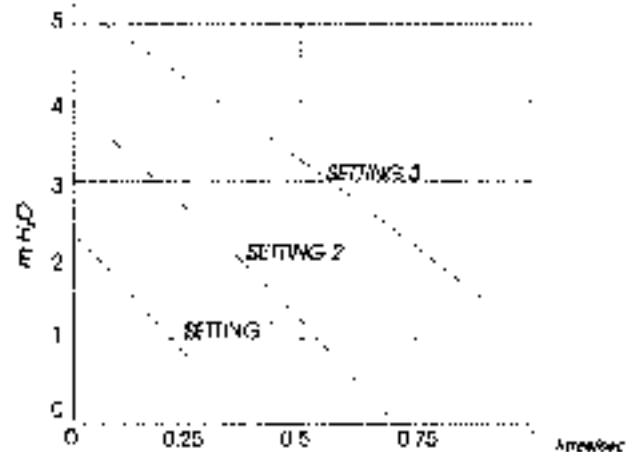

Figure 2.3: Performance Characteristics of Grundfos LFS 15-60 Pump
- a) The performance of the system pump and the pressure losses through the Systemate III primary coil circuit are shown in Figures 2.3, 2.3a and 2.4 respectively. The net pump head available for heating circuit can be determined from these figures and this net pump head should be used for sizing the heating circuit pipework.
- The boiler/system pump should be set at the speed at which the temperature difference across the boiler is not greater than 11°C i.e. the nominal design parameters. The performance of the pump is shown in Figures 2.3 and 2.3a.